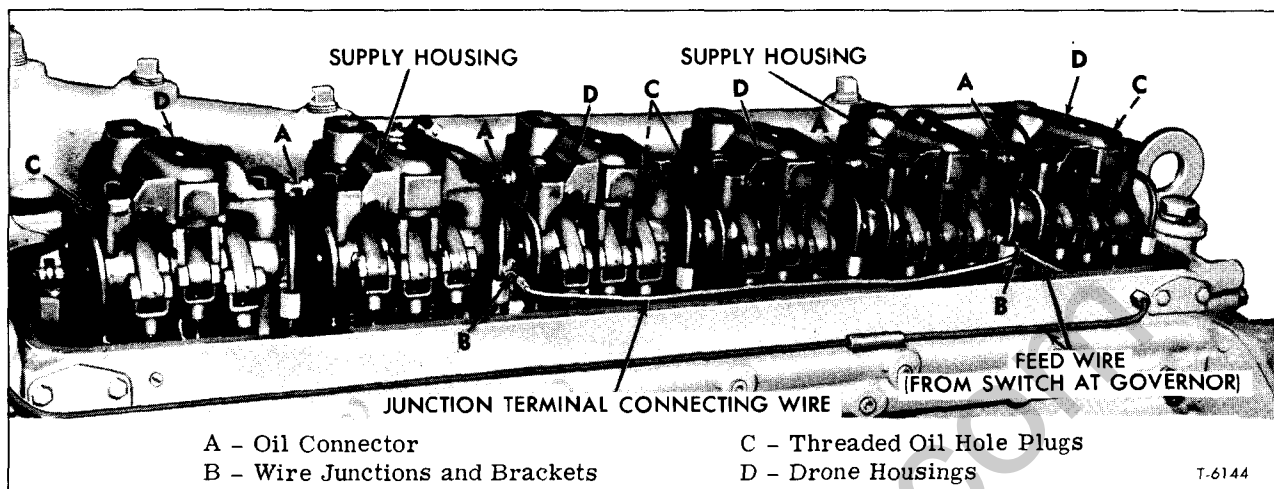
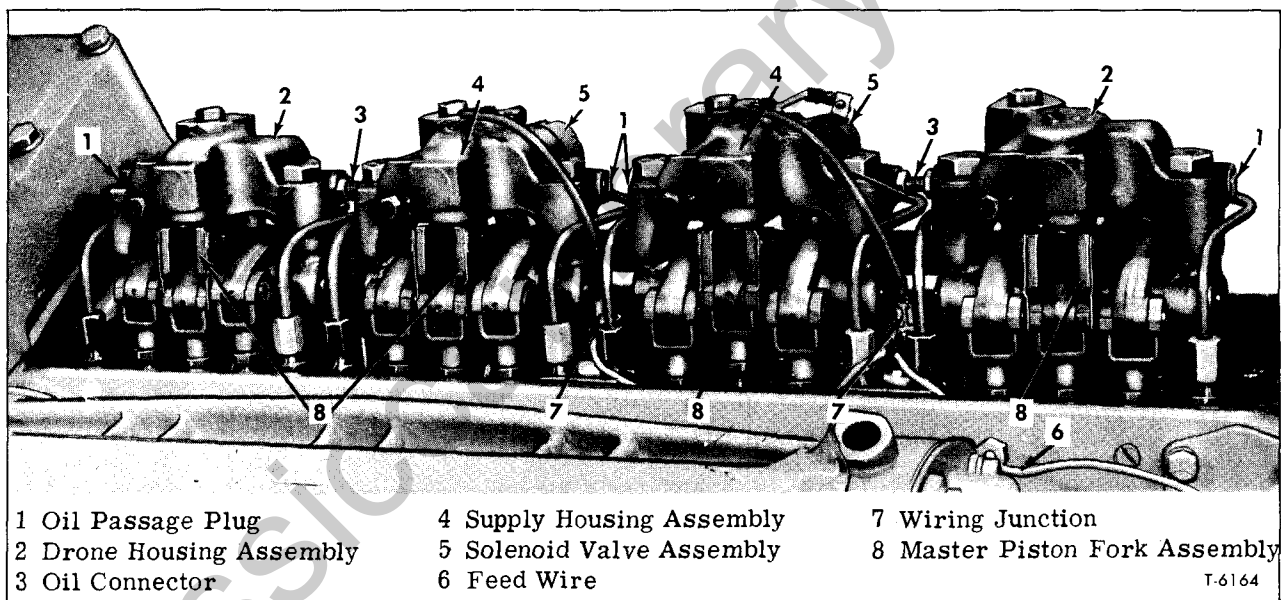

Figure 31—Engine Brake Mechanism on 6-71 Engine
Figure 32—Engine Brake Mechanism on 8V-71 Engine
The engine brake system functions the same on In-line engines as on V-type engines; however, on In-line engines two supply housings are used and each one is connected to a pair of drone housings (fig. 31). Two supply housings and two drone housings are used at each bank of cylinders on 8V-71 engines (fig. 32). The same arrangement of
4. Lay out the engine brake housing assemblies and attaching parts in positions shown in figure 31 for 6-71 In-line engine or figure 32 for 8V-71 engine.